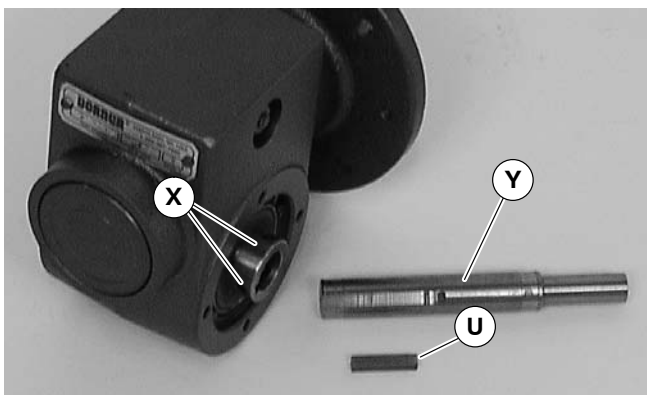

Figure 13
- Loosen set screws (X of Figure 13) and remove gear reducer output shaft (Y) and key (U).
- Insert the new shaft (Y of Figure 13) and key (U) into new gear reducer. Tighten set screws (X) to 35 in-lb (4 N-m).